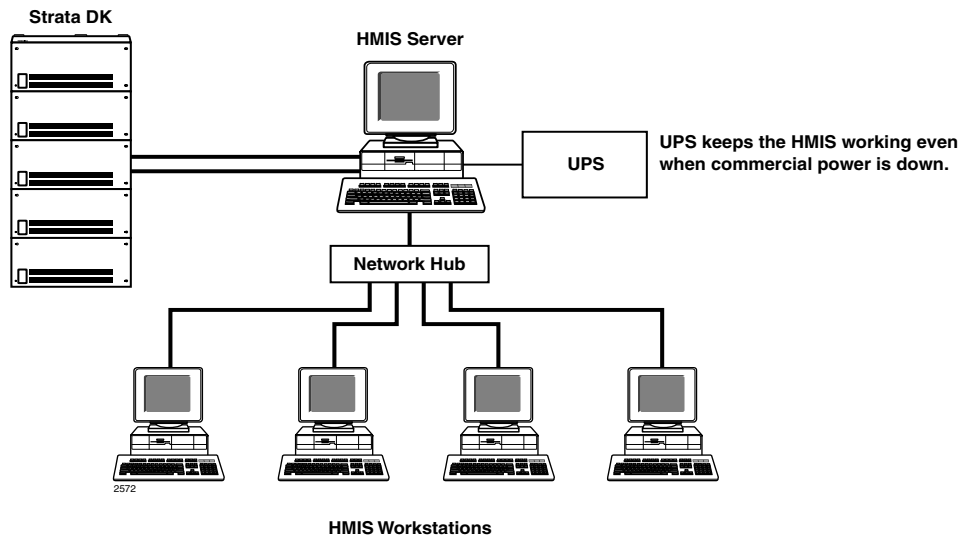

Figure 56 HMIS Server PC with Workstations
- ♦ An HMIS server with HMIS workstation PCs networked on a LAN to function as multiple front desk terminals (see Figure 56 below and “Multiple Front Desk PC Terminals” in the HMIS General Description). The configuration includes a five-port network hub which can support up to four workstations. Up to nine workstations can be connected using either a larger or multiple hubs.